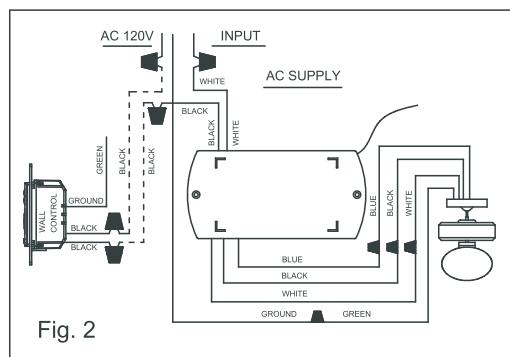

Fig. 2
**Step 2.** Make the electrical connections as shown in Fig.2. If your outlet box has a ground wire (Green or Bare Copper) connect the Wall Transmitter's ground wire to it. Otherwise connect the Wall Transmitter's wire directly to one of the screws from the outlet box . Secure all wire connections with the plastic wire nuts provided.